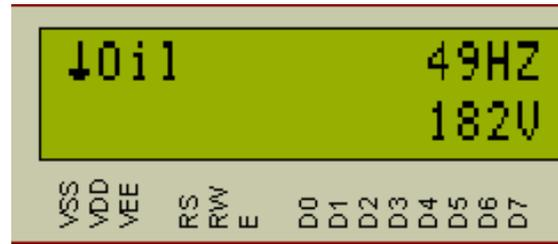

Figure 8 The error message of the oil system
- Display the error on the LCD as shown in Figure 8